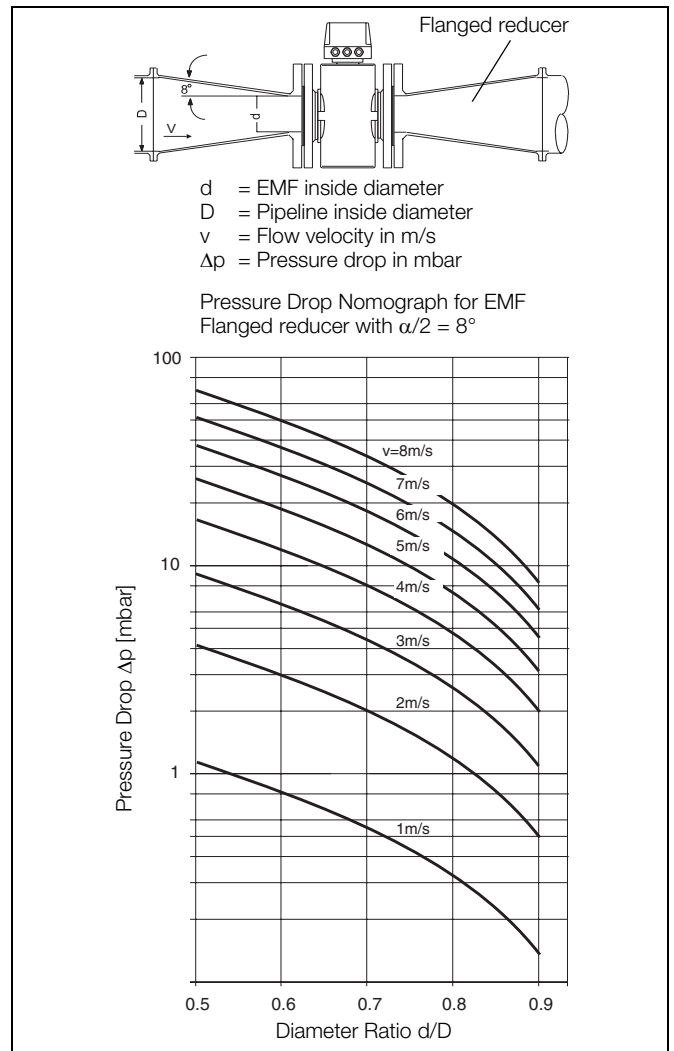

Fig. 4: Pressure Drop Nomograph
The flowmeter can be installed in larger size pipelines without problems using reducer sections. The pressure drop when reducers are used can be determined from the Nomograph, Fig. 4. The procedure for determining the pressure drop is as follows:
3. In Fig. 4 read the "Pressure drop" value, y-axis, at the intersection of the "Diameter Ratio", x-axis, and the "Flow Velocity" curve.